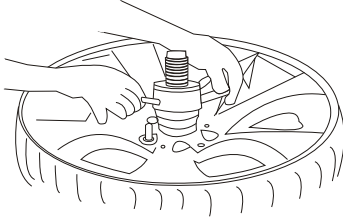

Fig 6
1. Take out the valve core to deflate the tyre. Roll the tyre onto the wheel lift 14. Depress the lift pedal 13 to raise the tyre up to the full height by the wheel lift 14 until the lift cradle goes to 90 degrees, and then slip the tyre over the turntable 8. Depress the lift pedal 13 to lower the wheel lift to the lowest position and align a lug hole on the rim with the alignment pin on the turntable so that the pin goes into the lug hole. Install the quick locking nut to the central post. Tighten it securely. (Fig 6)